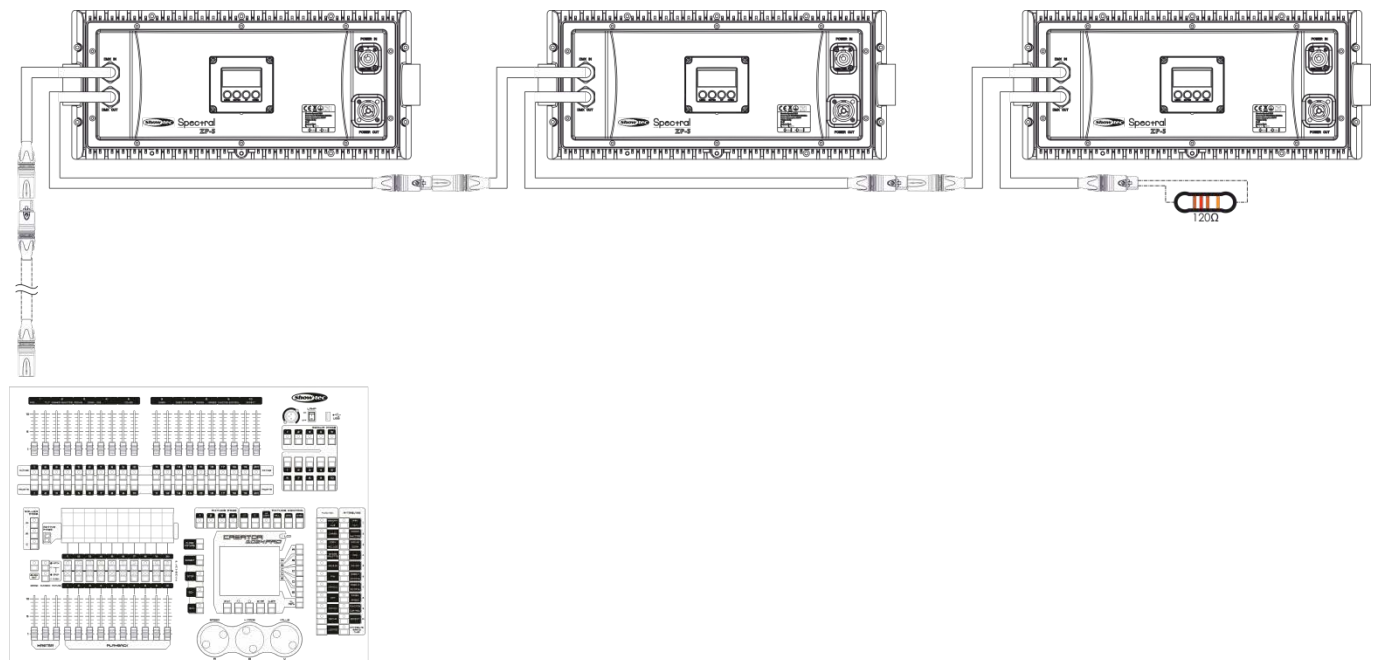

Fig. 04
- 04) Link the units as shown in fig. 04. Connect a light controller to the first unit's "in" 3-pin DMX IP65 cable, using a DMX cable. Connect the first unit's "out" 3-pin DMX IP65 cable with the second unit's "in" 3-pin DMX IP65 cable. Link the second, third, and fourth units.